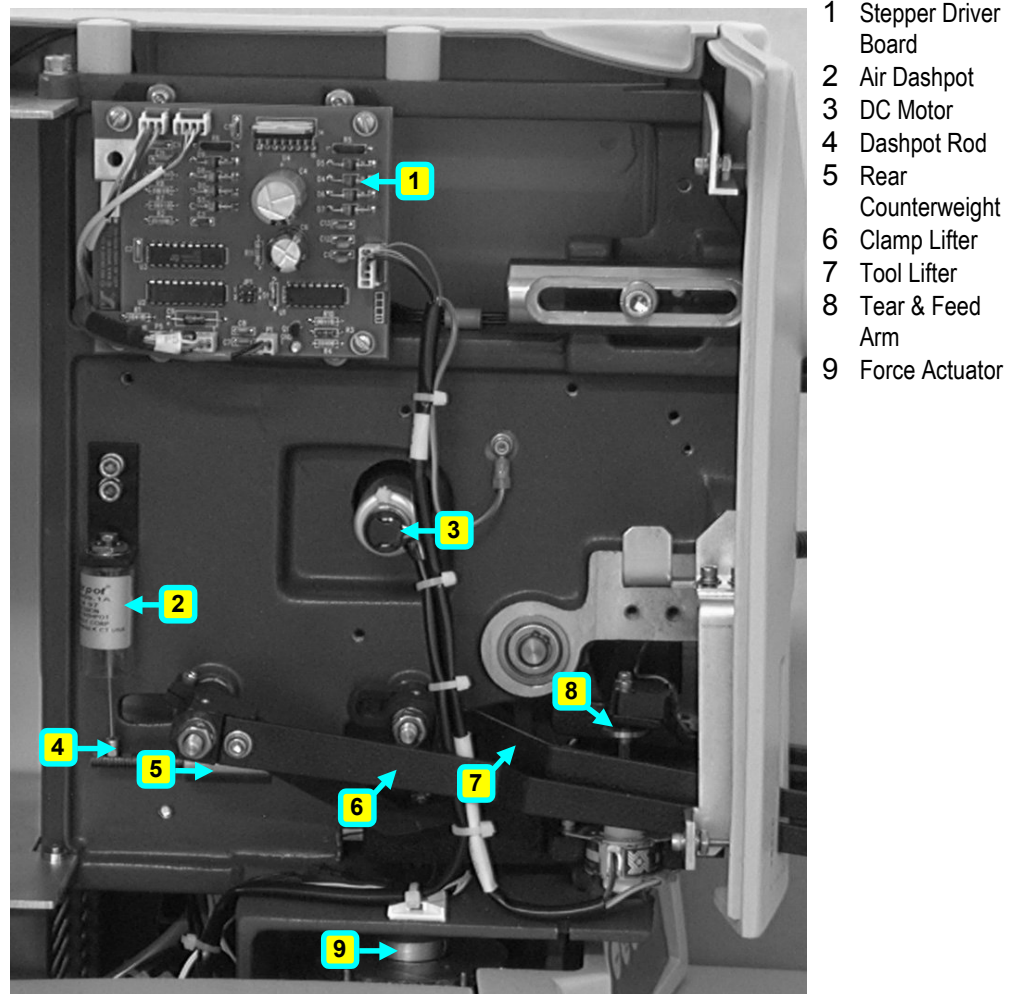

Figure 9-1: Main Head - Left View
Figures 9-1 and 9-2, respectively, show left and right views (from the front) of the main head assembly.
- 6 If necessary, adjust the air dashpot nut (see Figure 9-1) to obtain the required damping effect. Raise the front of the bonding head and let it drop. Ensure that the bonding head falls smoothly, but not too slowly.
- 1 Using a 7/32" wrench, release the dashpot rod (see Figure 9-1) from the dashpot connection rod. Take care that the dashpot piston does not fall out.